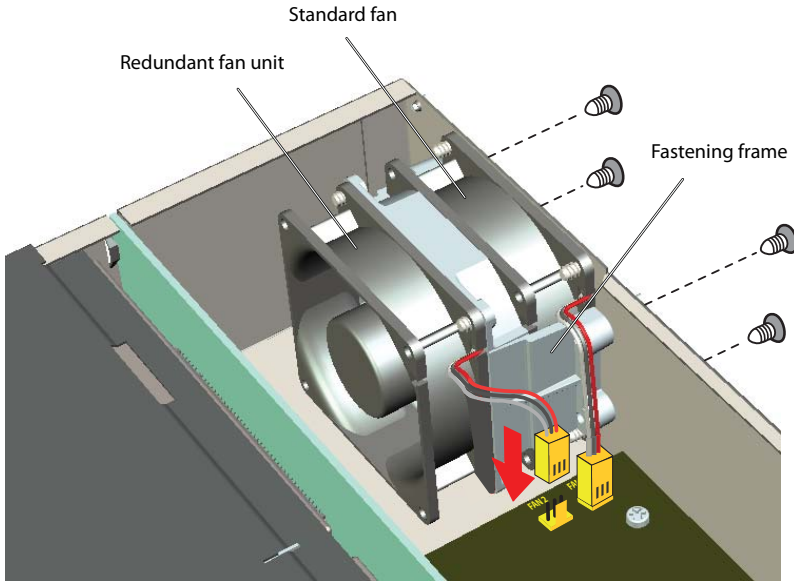

Fig. 19 Fitting the additional fan in Mitel 470
4. Use the 4 enclosed screws to fit the fastening frame complete with additional fan to the back panel of the communications server (see Fig. 19).